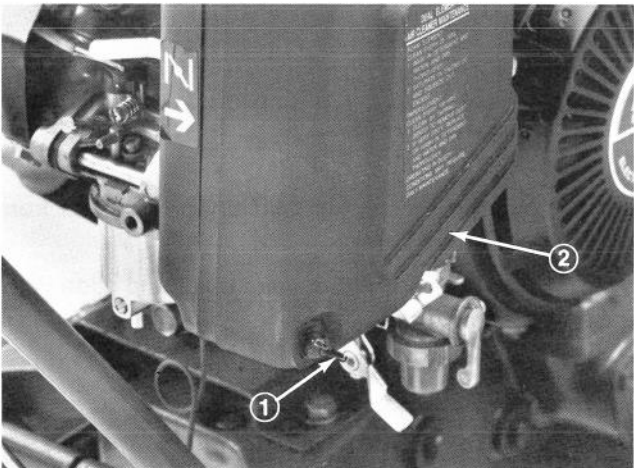

Figure 31
2. Remove wing nuts and cover to expose air cleaner element (Fig. 31).